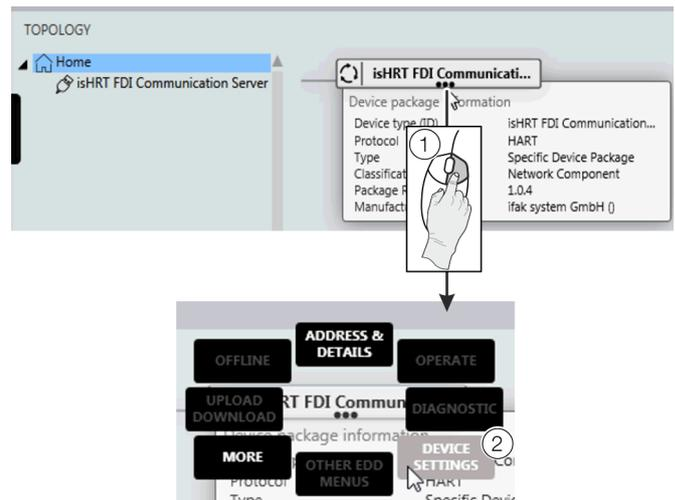

Figure 74: Select FIM – 'Device Settings'
6. Right-click ① as shown in **Figure 74**.
7. Select 'DEVICE SETTINGS' ② as shown in **Figure 74**.